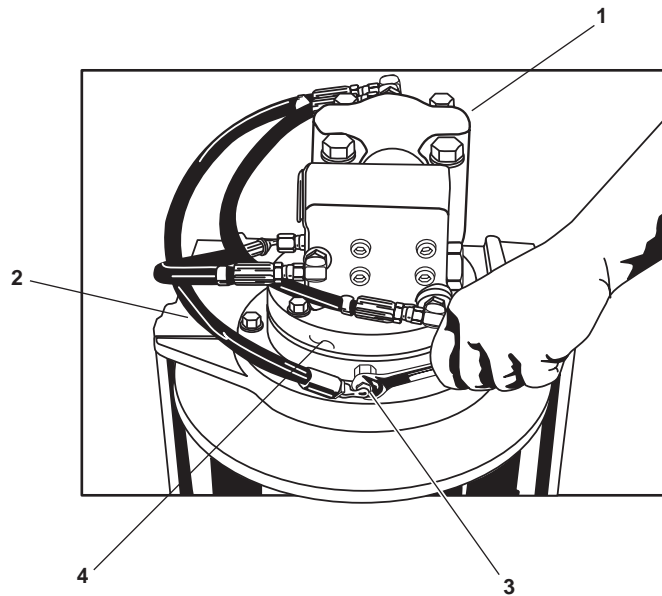

Figure 1. Brake Hose Removal
1. Place a suitable drain pan under the hydraulic motor (figure 1, item 1).
2. Slowly release the hydraulic pressure in the hydraulic brake hose (figure 1, item 2) by loosening the hydraulic brake hose fitting (figure 1, item 3).
- Remove the hydraulic brake hose (figure 1, item 2) from the brake assembly (figure 1, item 4). Drain any remaining hydraulic fluid into the suitable drain pan.
- Place an identification tag or label on the hydraulic brake hose (figure 1, item 2) and cover it with a clean rag to prevent foreign material from entering the hydraulic system.